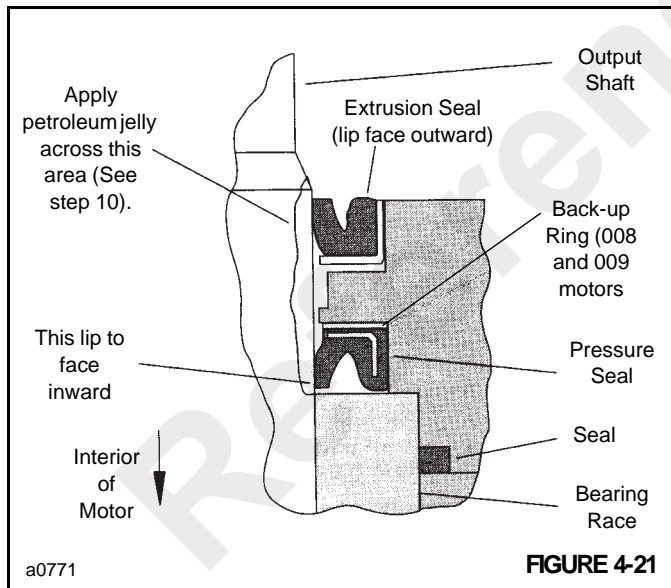

FIGURE 4-21
- Before installing the flange and seal assembly over shaft (9) Figure 4-13, place a protective sleeve or bullet over the shaft. Then lubricate the space between exclusion seal (2) and pressure seal (5), as well as the lips of both seals Figure 4-21.